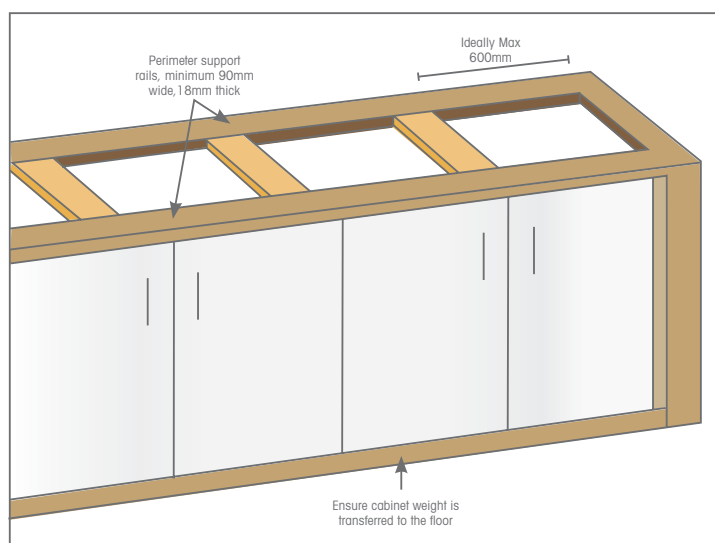

Fig. 3
- Cabinets must be constructed from solid panels 16mm thick (minimum), ensuring the weight transfer from the benchtop to the floor is carried out through each end gable or division. (Fig. 3).